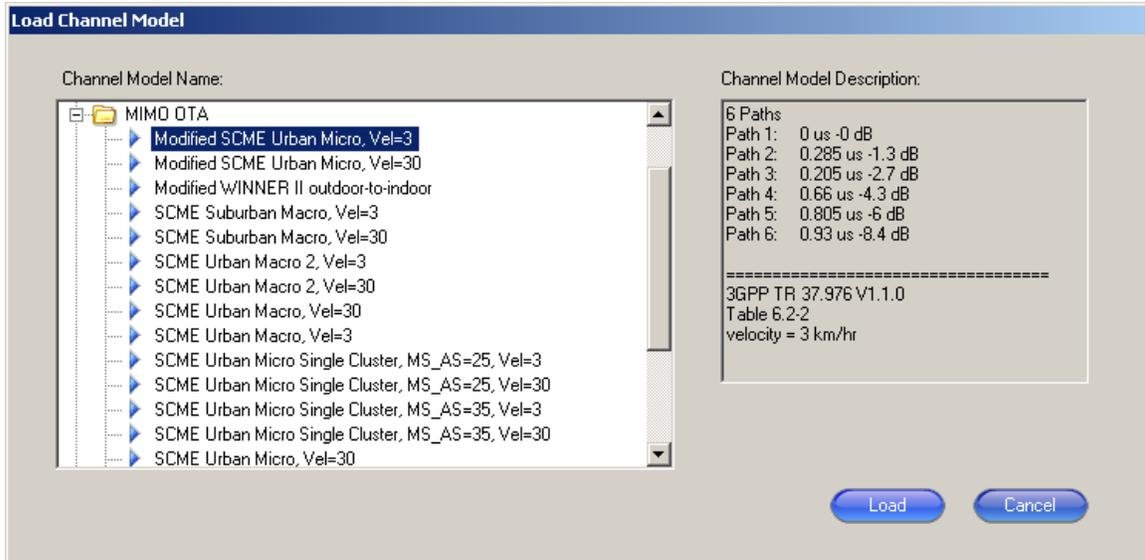

Figure 3-14: Load Channel Model Window
2. Open the desired folder and select a model, as shown in Figure 3-14.